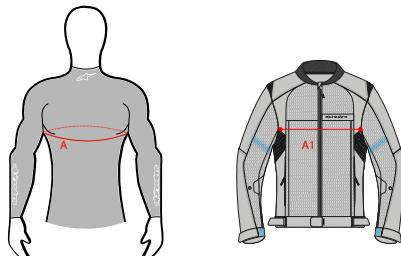

Figure 8
**WARNING! Tech-Air® 3 in sizes "S" or larger shall be worn with a Tech-Air® Ready Alpinestars' outer garment of the same size of the System or with any Alpinestars' outer garment that is not Tech-Air® Ready provided that the size of the Alpinestars' outer garment is one size larger than the size of the System or regardless of whether it is an Alpinestars' outer garment or not meets the following criteria: For the chest area, measure the circumference of the chest (A) and the garment width on the chest region (A1). The garment is compatible with Tech-Air® 3 System if A1 > 0.5 x A + 12 cm (A1 > 0.5 x A + 4.72 in) (see figure 8 below)**